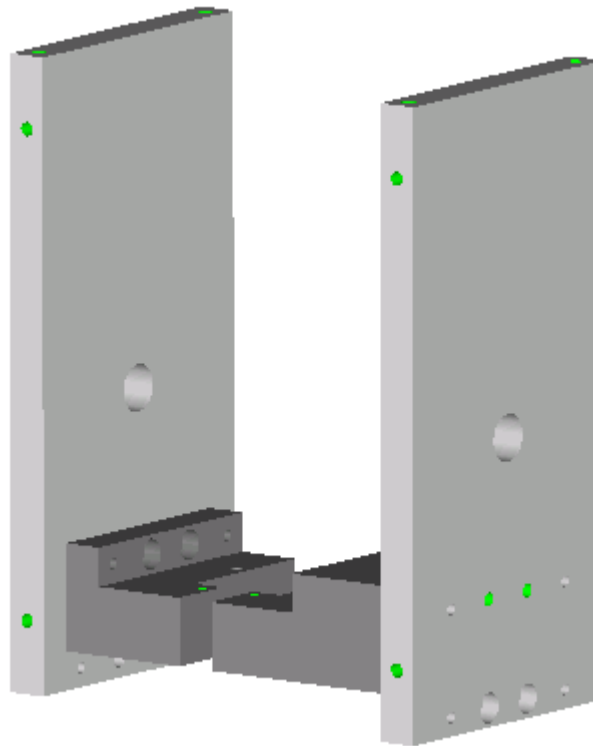

Figure 22. Temperature standoffs and front/rear temperature shields.
**STEP 2:** Loosely attach the standoffs to the temperature shields (non-counterbored side). The shorter standoff uses two 1/4" screws. The longer standoff uses two 3/8" screws (see figure 22).